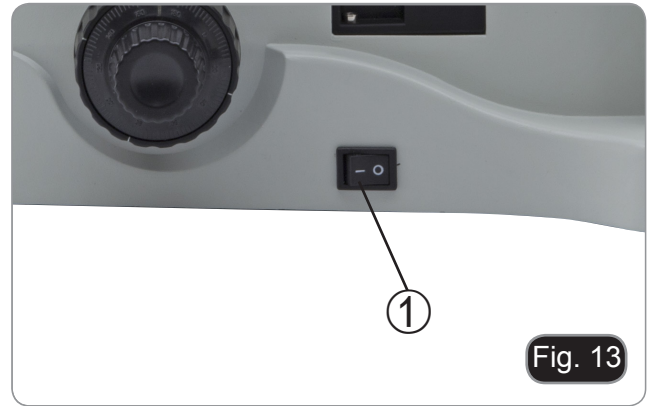

Fig. 13
1. Put the main switch ① to “O” (OFF) before connecting the power cord. (Fig.13)